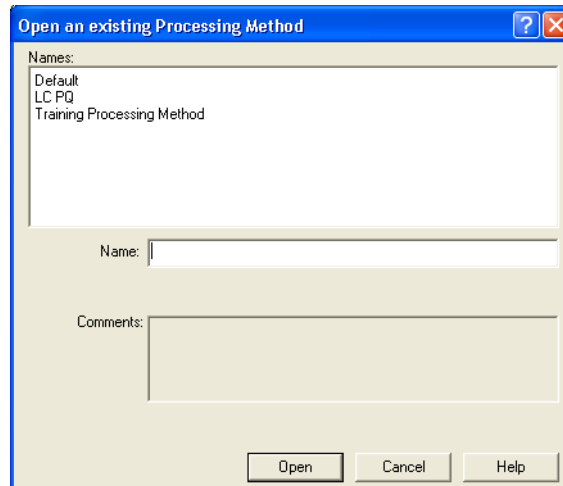

Figure 5-12 Open an Existing Processing Method Dialog Box
3. Click  (Copy from Processing Method). The Open an existing Processing Method dialog box appears (Figure 5-12)